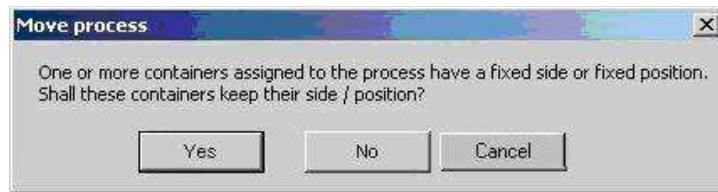

Figure 296: Prompt when Moving a Process
- If you now move a container process with a fixed assignment to another workplace, you can determine beforehand whether this container should be placed at a new workplace of the process or whether it should remain at the old place. *Please refer to the Figure 296.*